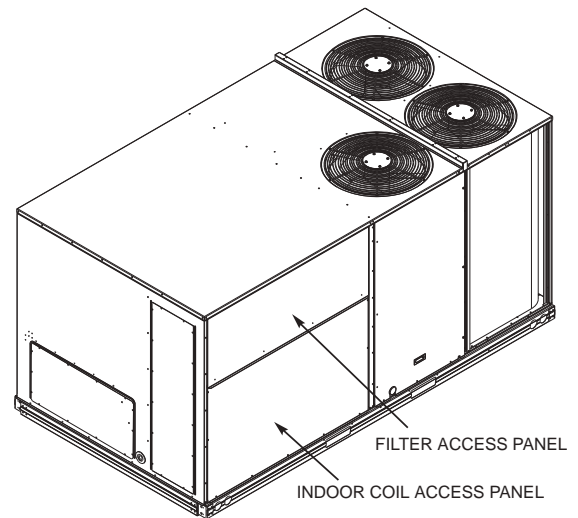

Fig. 18 — Typical Access Panel Locations
2. To gain access to the hood, remove the filter access panel. (See Fig. 18.)